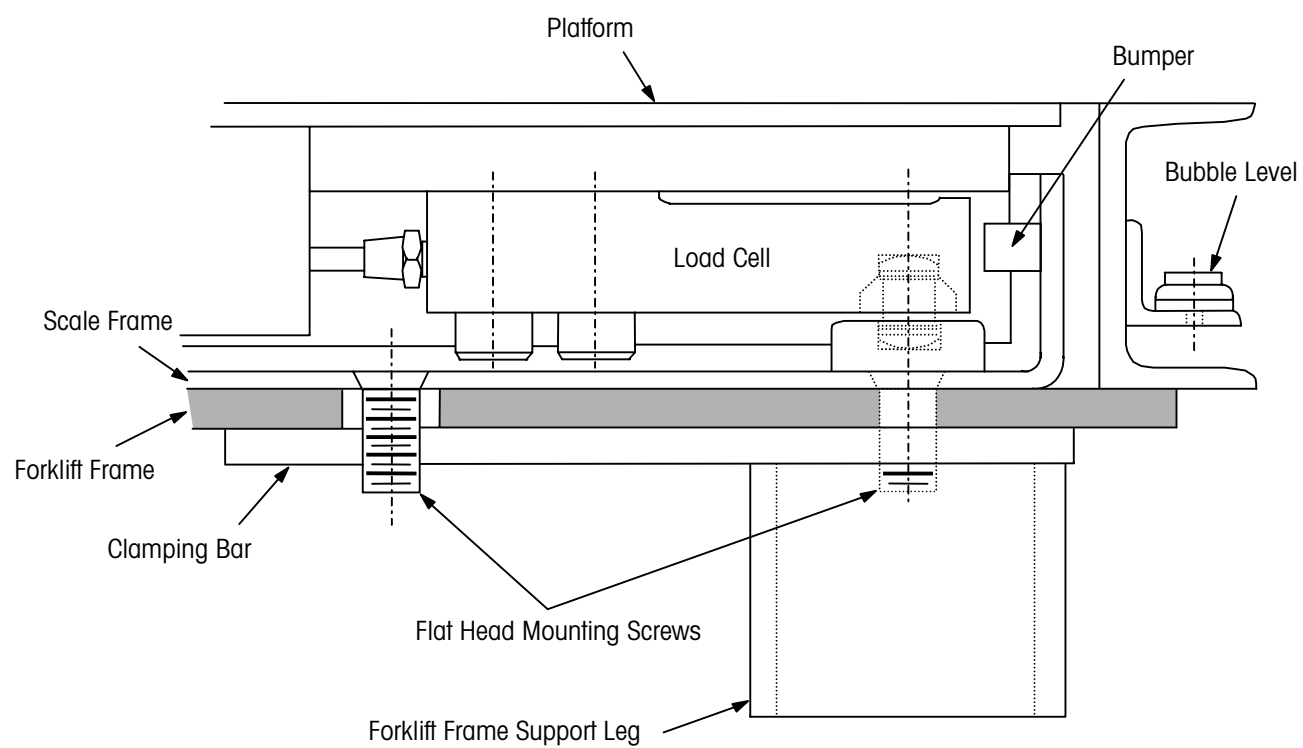

Figure 6-1: Forklift Frame Assembly Detail
3. Also included is a bubble level assembly, which mounts on the side of the forklift frame as shown in Figure 6-1. The bubble level is used to check the suitability of the chosen location. Mount the bubble level first before beginning assembly of the scale to the forklift frame.
6. Install a clamping bar beneath each frame corner by threading the two projecting screws into the tapped holes provided. Tighten all screws until they are finger-tight (see Figure 6-1).